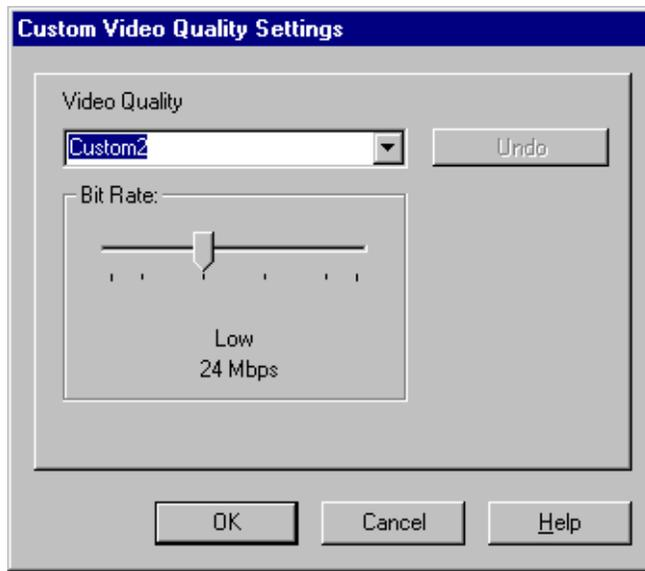

Figure 54. JPEG Custom Video Quality Settings dialog box
- For JPEG (see Figure 54 and Table 6) select a video quality with the slider. You can move the slider with the mouse or arrow keys.